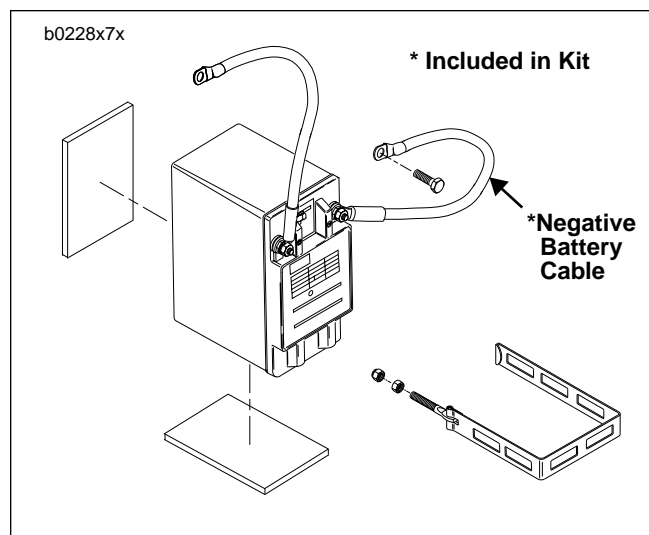

Figure 2. Negative Battery Cable
10. See Figure 2. Disconnect negative (-) battery cable from battery terminal.